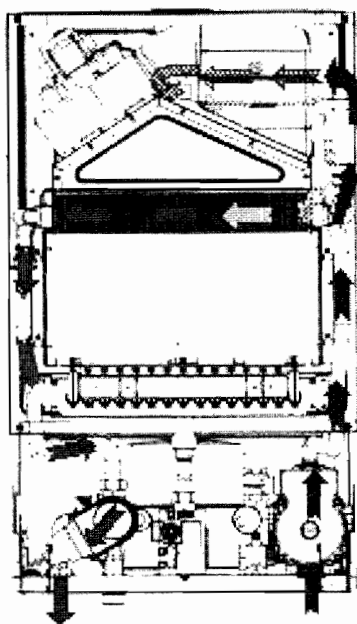
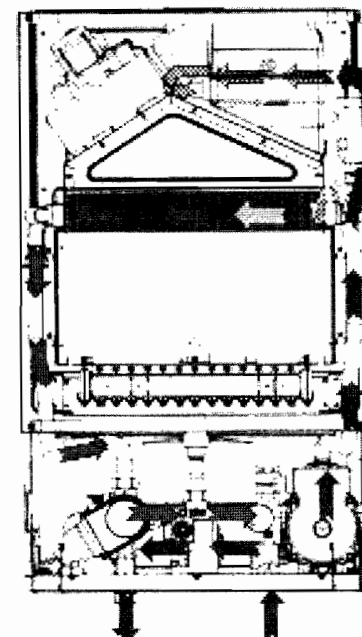

Figure 2a
Figure 2b
- 4.2** Depending on demand water is either diverted via the three port valve to the secondary water-to-water heat exchanger for domestic hot water or directly to the heating system. Schematic diagrams showing the flow within the boiler's central heating hydraulic circuit *figure 2a* and D.H.W. hydraulic circuit *figure 2b* are given.